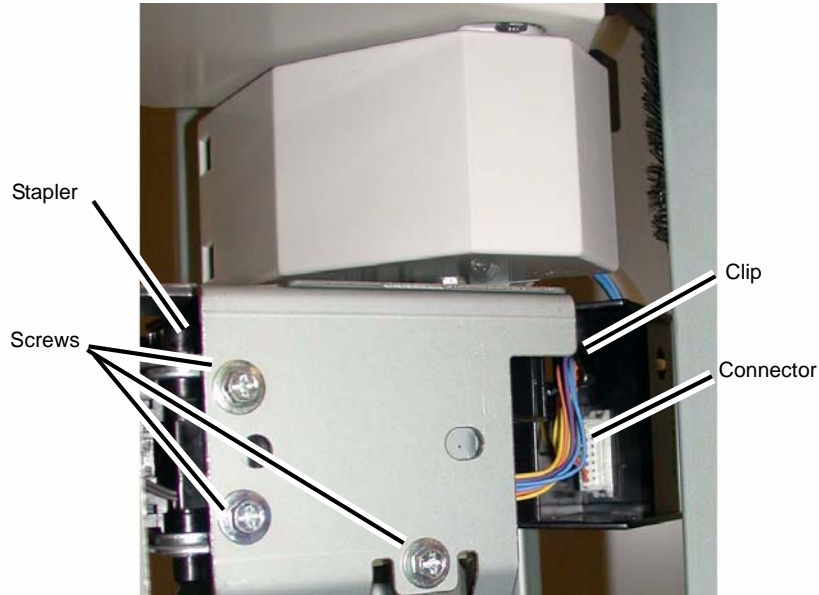

Figure 4 Removing the Stapler
- (1) Remove the Screws (2).
- (2) Remove the Stapler Rear Cover.
7. Remove the Stapler (Figure 4).